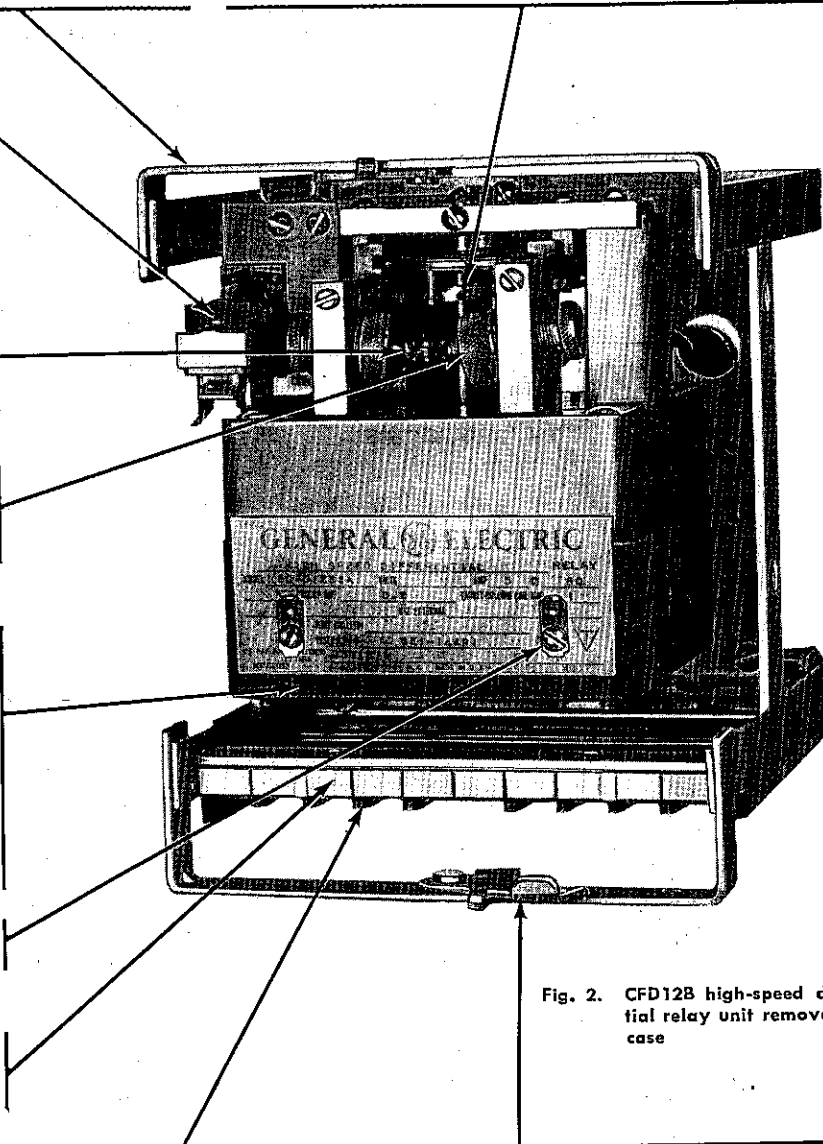

Fig. 2. CFD128 high-speed differential relay unit removed from case
**Target** (see figure 2).
**Front Contact** (see figures 2 and 4).